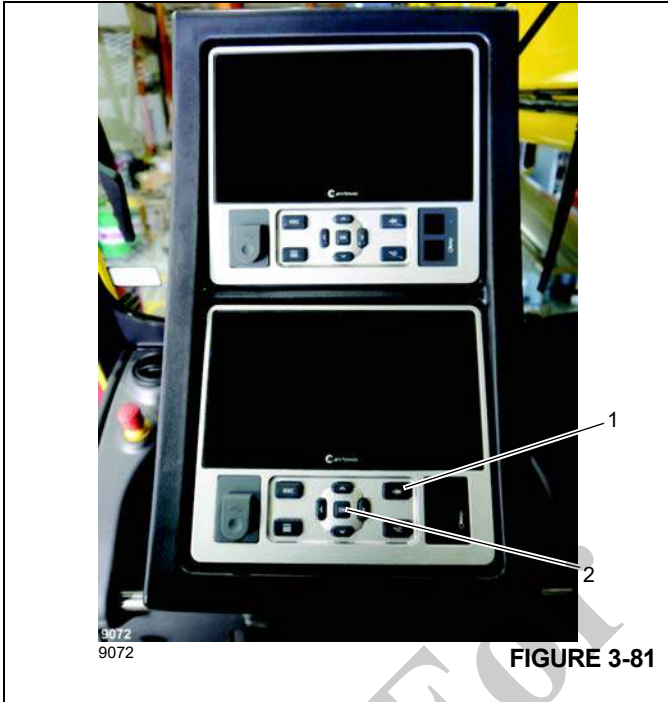

FIGURE 3-81
**NOTE:** The audible alarm can be canceled by pressing the Tab Button on the display. Refer to Item 1 in (Figure 3-81). It can only be canceled once the boom is no longer being moved. When boom motion again becomes apparent in the control system, the audible alarm will be restored.